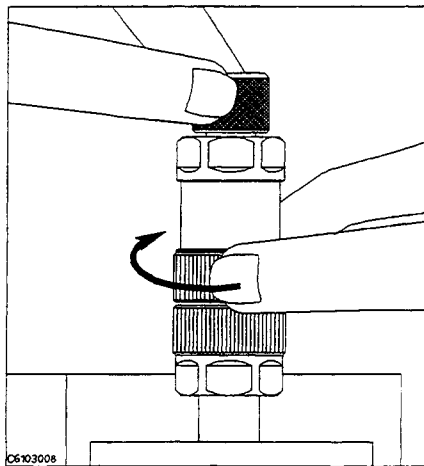

Figure 3-11.
17. Connect the low-loss capacitor to the APC-7[®] connector as shown in Figure 3-11.